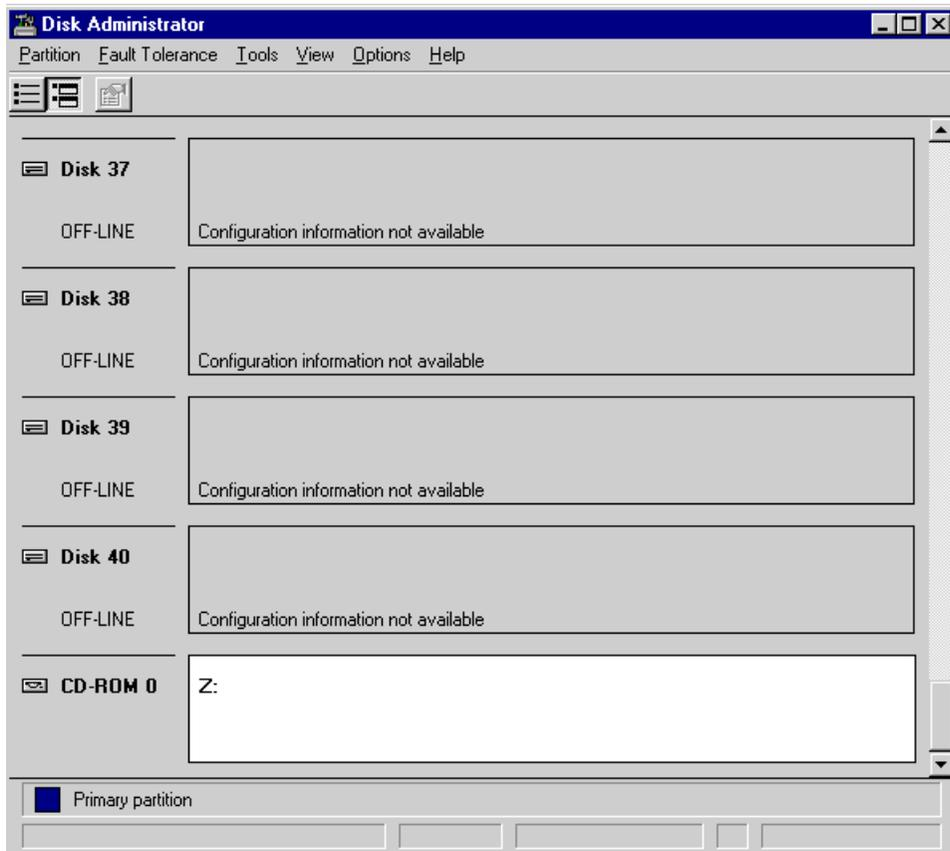

Figure 57. Shows how SDD handles presentation of four paths to 10 volumes
9. Run Disk Administrator again on the host to re-scan the bus. You should get the same number of online but more additional offline disks (in our example in Figure 57, thirty offline disks).